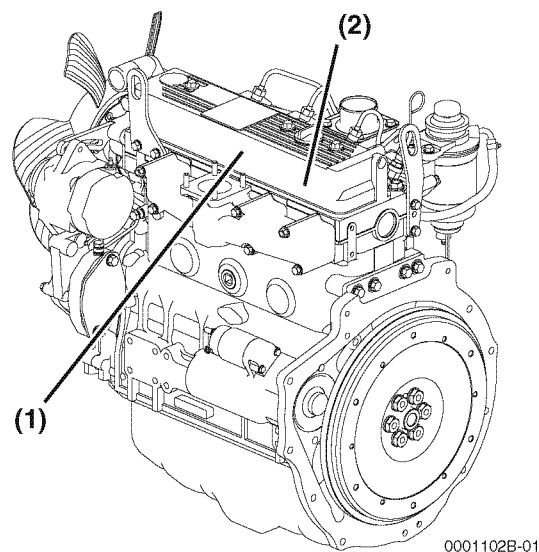

Figure 2
Figure 2 shows the location of regulatory and safety labels on Yanmar TNE series engines.
The emission control information label is typically affixed to the exhaust side of the rocker arm cover (Figure 2, (1)).
Typical location of the engine nameplate is shown. (Figure 2, (2)).